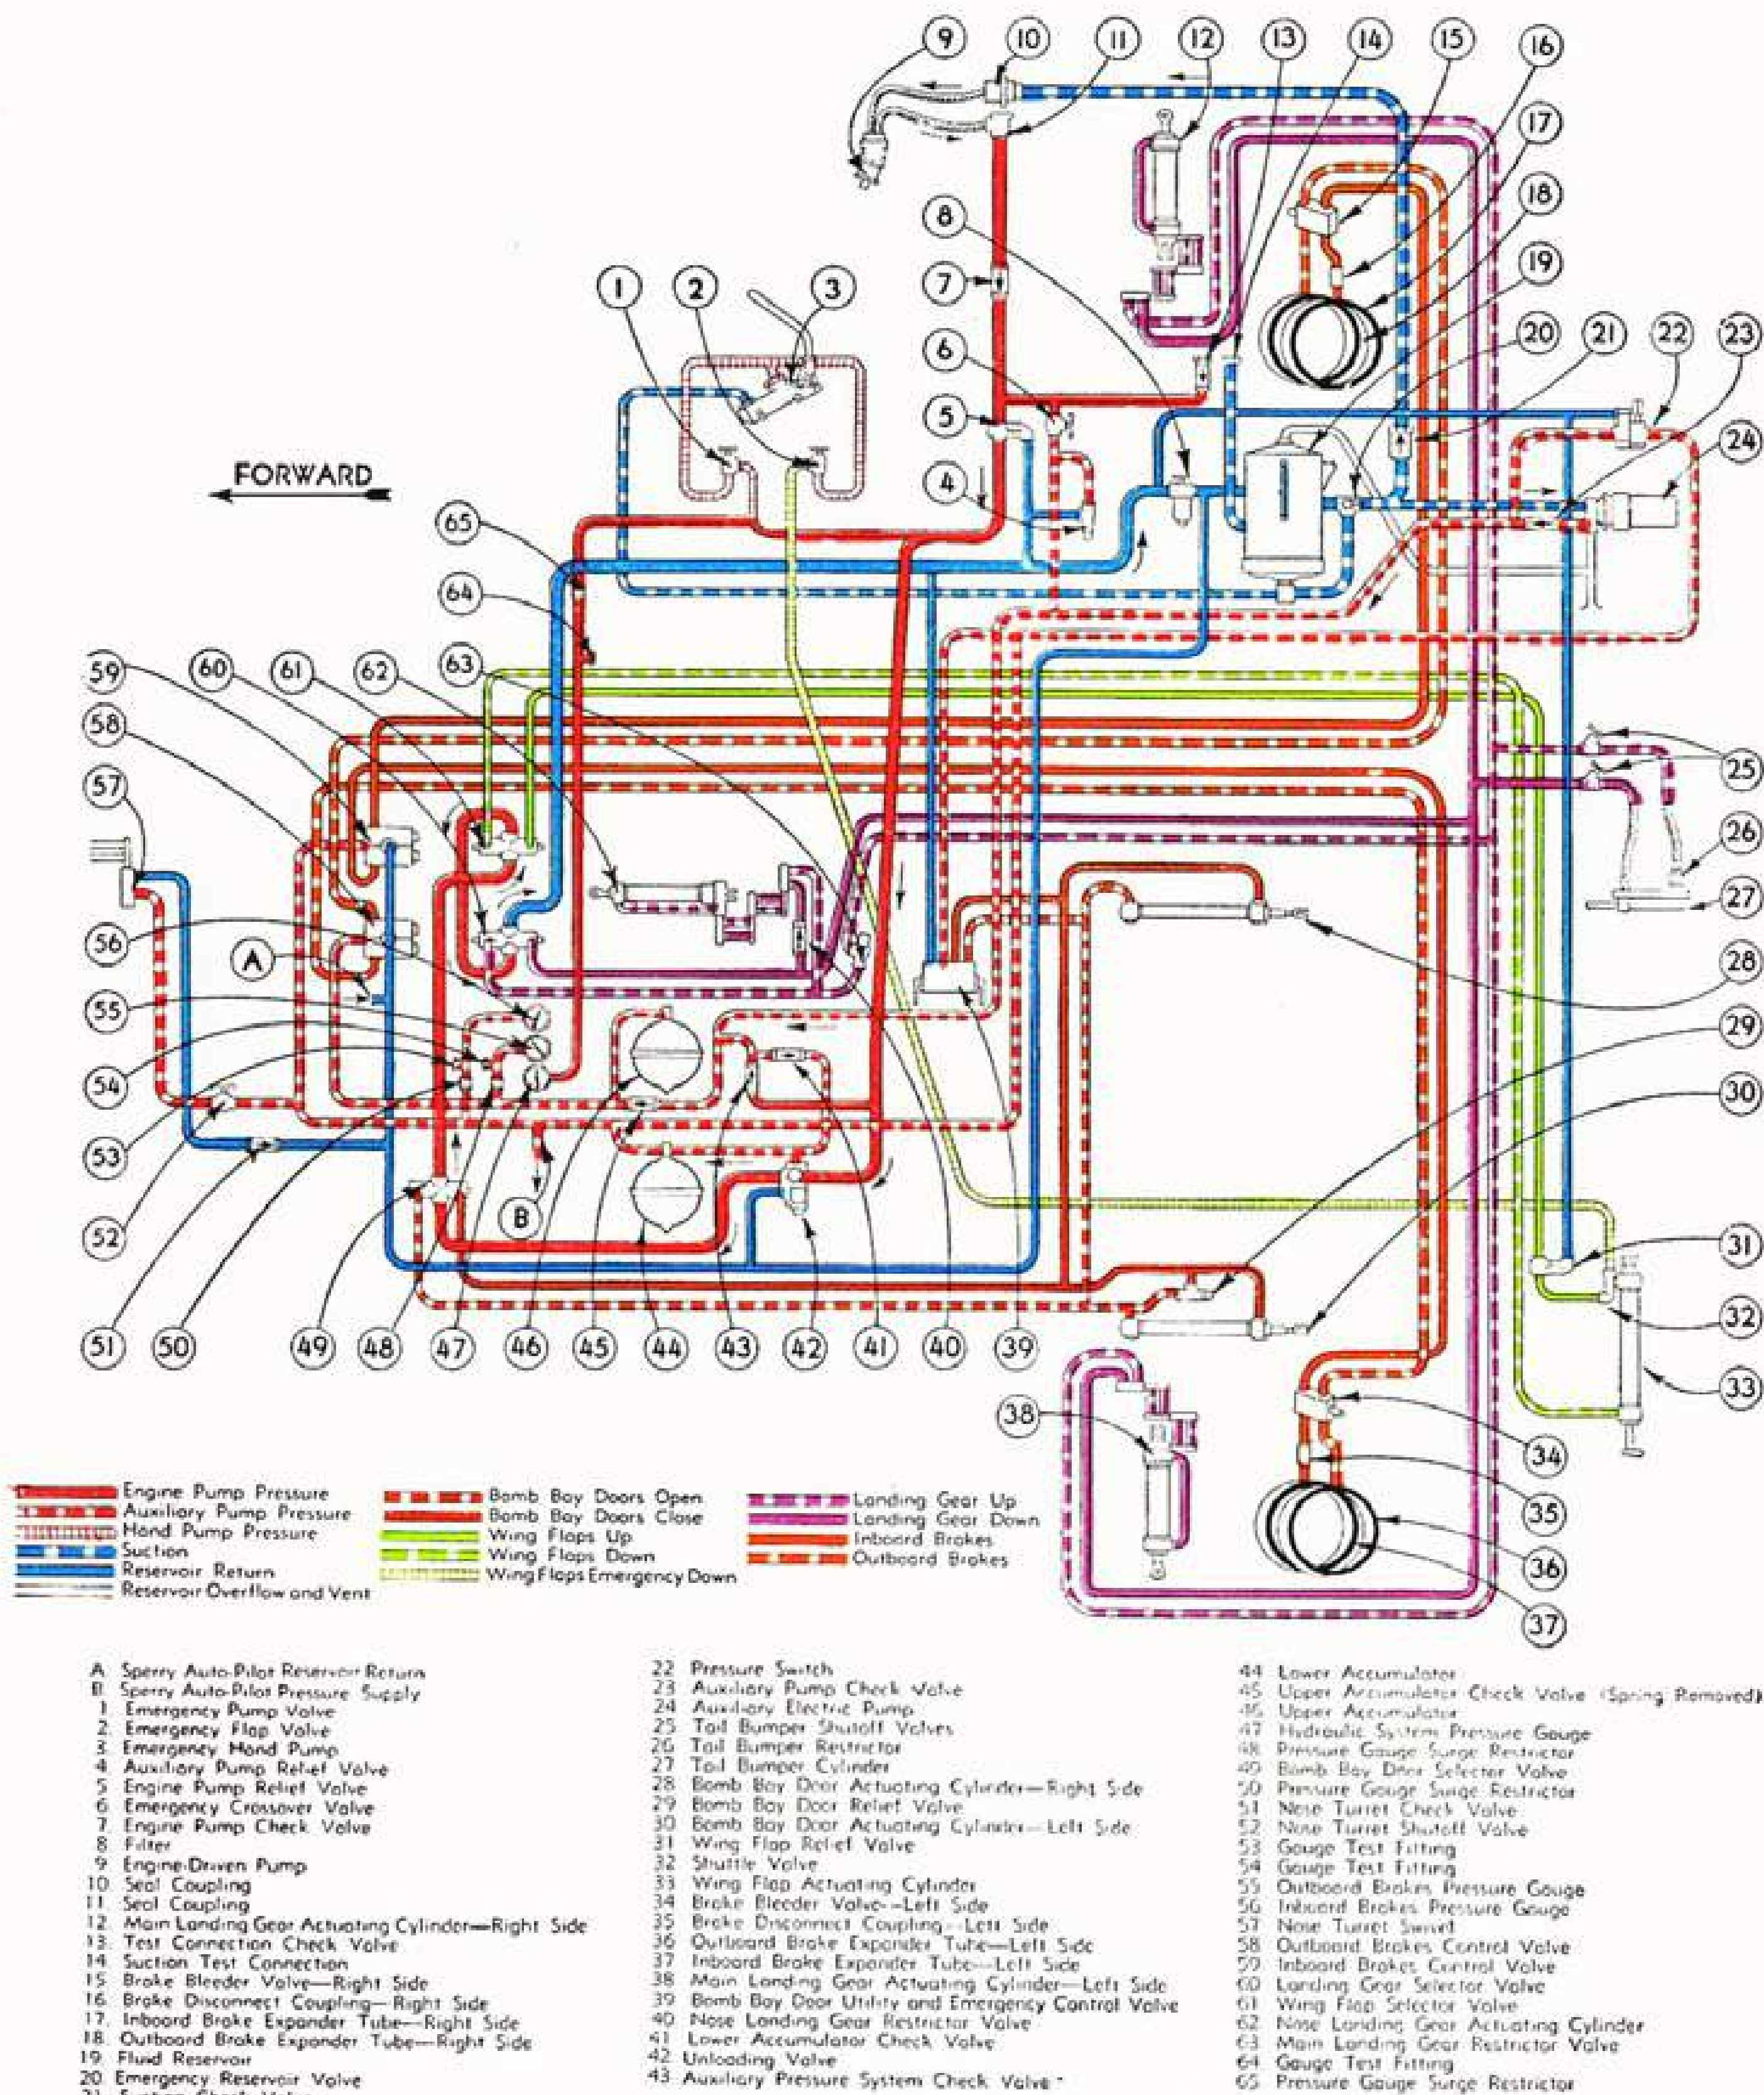

Figure 20—PB4Y-2 Hydraulic System
Fluid under pressure, for operation of the PB4Y-2 hydraulic system, illustrated schematically in figure 20, is supplied through an *Open Center System* and an *Accumulator System*.
Accumulators (44) and (46), Figure 20, can be charged with hydraulic fluid under pressure, in the following ways:
(24) off), unloading valve (42) acts as an accumulator pressure regulator, diverting fluid from the open center line to both accumulators when pressure in lower accumulator (44) drops to 850 ± 50 p.s.i., and returning the full flow to the open center line when accumulator pressure rises to 1000 ± 50 p.s.i.
2. If the open center line back pressure, which builds up when the bomb bay doors, the wing flaps, or the landing gear are operated through an open center selector valve, exceeds the pressure in either or both accumulators, accumulator pressure will rise with open center line pressure, independent of unloading valve (42). If open center line pressure exceeds the fluid pressure in lower accumulator (44), fluid flows from the open center line through check valves (43) and (41) into the lower accumulator until lower accumulator pressure equals open center line pressure; likewise, fluid flows from open center line through check valves (43) and (45) into upper accumulator (46), when open center line pressure exceeds upper accumulator pressure.
3. When auxiliary electric pump (24), Figure 20, is turned on, and emergency crossover valve (6) remains closed, the auxiliary electric pump supplements the engine-driven pump (9) by taking over the charging of the accumulators, maintaining accumulator pressure between the limits 970 ± 50 and 1140^{+30}_{-10} p.s.i., while the engine-driven pump supplies fluid to the open center selector valves only. This is made possible by the relative pressure adjustments of unloading valve (42) and pressure switch (22).
A seven-piston pump (9), Figure 20, mounted on the accessory drive section of No. 3 engine, pro-
The auxiliary electric pump (24), Figure 20, has a normal load of 95 to 98 amperes. It is turned on or off by two switches in series. One switch, located at station 4.1, is manually operated; the other is an automatic pressure regulating switch (20), Figure 20.
1. Accumulator charging function— The auxiliary electric pump should be turned on before take-off and before landing, and off during flight. When the pump is turned on, while the emergency crossover valve (6) remains closed, the auxiliary electric pump supplements the engine-driven pump by taking over the charging of the accumulators, maintaining accumulator pressure between the limits 970 ± 50 and 1140^{+30}_{-10} p.s.i., while the engine-driven pump supplies fluid to the open center selector valves only. This is made possible by the relative pressure adjustments of unloading valve (42) and pressure switch (22).
2. Emergency function—In the event of failure of engine-driven pump (9), Figure 20, or of engine No. 3, on which the pump is mounted, the auxiliary electric pump can be connected to the open center pressure line by opening emergency crossover valve (6). When thus connected, the auxiliary electric pump replaces the engine-driven pump, and supplies fluid for operation of the entire hydraulic system; under these conditions pressure switch (22) remains in the on position, and unloading valve (42) controls the charging of the accumulators.
Hand pump (3), Figure 20, provides an emergency method of supplying hydraulic fluid for operation of the hydraulic system in the event of failure of both the engine-driven pump and the auxiliary electric pump.
Fluid for hand pump operation is drawn through the hand pump suction outlet at the bottom of reservoir (19), Figure 20. Two valves, (1) and (2), control the direction of fluid flow from the hand pump; normally valve (1) is wired in open position, while valve (2) is wired in closed position. Fluid flow from the hand pump is controlled in the following manner:
1. With valve (1) open and valve (2) closed, fluid flows from the hand pump through valve (1) to the open center line for operation of the entire hydraulic system.
2. With valve (1) closed and valve (2) open, fluid flows from the hand pump through valve (2) directly to wing flap actuating cylinder (32) for emergency lowering of wing flaps.
Emergency Crossover Valve (6), Figure 20, located at station 4.2, right side, must be closed during normal operation of the hydraulic system. However, in the event of failure of engine-driven pump (9), or of engine No. 3 on which the pump is mounted, turn on the auxiliary electric pump and open the emergency crossover valve to allow fluid under pressure from the auxiliary electric pump to flow into the open center pressure line.
Emergency flap valve (2), Figure 20, located on the right side of the fuselage, adjacent to the hand pump, connects the hand pump to a direct line to the shuttle valve, which is mounted on the inboard end of the wing flap cylinder, for emergency lowering of the wing flaps. Normally, the emergency flap valve is secured in the *closed* position by safety wire. The valve should be opened *only* for emergency lowering of wing flaps.
Emergency pump valve (1) Figure 20, located on the right side of the fuselage, adjacent to the hand pump, connects the hand pump to the open center pressure line for emergency operation of the entire hydraulic system. Normally, the emergency pump valve is secured in the *open* position by safety wire. The emergency pump valve should be closed *only* when the emergency flap valve has been opened for emergency lowering of wing flaps.
Emergency reservoir valve (20) Figure 20, located aft of the reservoir, directs the flow of fluid from the bottom and center reservoir suction outlets. The valve is a simple plug valve with three ports. For normal operation, the valve handle must be horizontal so that all three valve ports are open, and fluid can flow from both the center and the bottom reservoir outlets. When the valve handle is in the vertical or emergency position, only two of the valve ports are open, so that only the bottom reservoir suction outlet is open to the main suction line, while the center reservoir suction outlet is closed.
Hydraulic system pressure gauge (47), Figure 20, indicates fluid pressure in the open center pressure line. With the engine-driven pump in operation, accumulators charged, and none of the open center selector valves in operating position, the hydraulic pressure indicated on the gauge varies from 25 to 75 p.s.i. When accumulators are charging through the unloading valve, gauge (47) will indicate the same pressure as brake pressure gauges (55) and (56), i.e., up to 1000 ± 50 p.s.i. The bomb bay door, wing flap, and landing gear operating pressures are indicated on gauge (47). The highest pressure attained is the landing gear selector valve relief (or kickout) pressure, 1100^{+0}_{-50} p.s.i.
Inboard brakes pressure gauge (56), Figure 20, indicates fluid pressure in lower accumulator (44). Accumulator pressure can vary from 850 ± 50 to 1000 ± 25 p.s.i. when the accumulator is charged by the engine-driven pump through the unloading valve, or by the auxiliary electric pump through the emergency crossover valve and the unloading valve. When the emergency crossover valve is closed and the auxiliary electric pump is turned on, accumulator pressure can vary from 970 ± 50 to 1140^{+30}_{-10} p.s.i.
Outboard brakes pressure gauge (55), Figure 20, indicates fluid pressure in upper accumulator (46). Operating pressures are the same as for the lower accumulator (inboard brakes pressure gauge).
1. Bomb bay door selector valve (49), Figure 20, in bombardier's compartment.
The two ends of cylinder (30), Figure 20, are interconnected through bomb bay doors relief valve (29). Relief valve (29) discharges fluid from the *doors open* line to the *doors close* line if fluid pressure in the *doors open* line exceeds 700 p.s.i.
The bomb bay door utility and emergency valve (39) Figure 20, is located just forward of the bomb bay bulkhead at station 4.0.
1. Normal Operation—To lower and retract the wing flaps, fluid is forced through wing flap selector valve (61), Figure 20, to wing flap actuating cylinder (33) by the engine-driven pump, or by the auxiliary electric pump in case of failure of the engine pump.
2. Emergency Lowering—To lower the wing flaps, fluid is pumped by hand pump (3), Figure 20, directly to the wing flap actuating cylinder through flap emergency valve (2) and shuttle valve (32).
3. Supplementary Emergency Lowering Method—Fluid can be pumped through emergency pump valve (1), Figure 20, by the hand pump into the open center system and through wing flap selector valve (61) to raise or lower the flaps. This method is very slow if the accumulator pressure charge is low; therefore, it is not recommended as an emergency method for
Wing flap selector valve (61), Figure 20, is located forward of the pilot's control pedestal and is operated by a lever on the right side of the pedestal. When the control lever is placed in either the *flap up* position or the *flap down* position, the selector valve piston remains in position and directs fluid from the open center line to the top or the bottom of the actuating piston in the wing flap cylinder (33). Fluid which returns from the cylinder flows through selector valve (61) into the open center line, and returns to the reservoir.
In the event of failure of the open center system, the wing flaps can be lowered through operation of hand pump (3) Figure 20. Emergency lowering of wing flaps is effected as follows:
Refer to Figure 20.
The landing gear selector valve (60), Figure 20, is located forward of the pilot's control pedestal and is operated by a lever on the port side of the pedestal. When placed in either the *gear up* or *gear down* position, the selector valve remains in position and directs fluid from the hydraulic open center line to the main landing gear, nose landing gear, and tail bumper actuating cylinders. Fluid which returns from the actuating cylinders flows through the landing gear selector valve into the hydraulic open center line and returns to the fluid reservoir. When